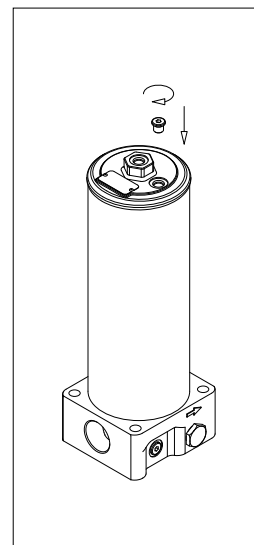

fig. 11
- (Fig. 11) Immediately screw the breather plug in